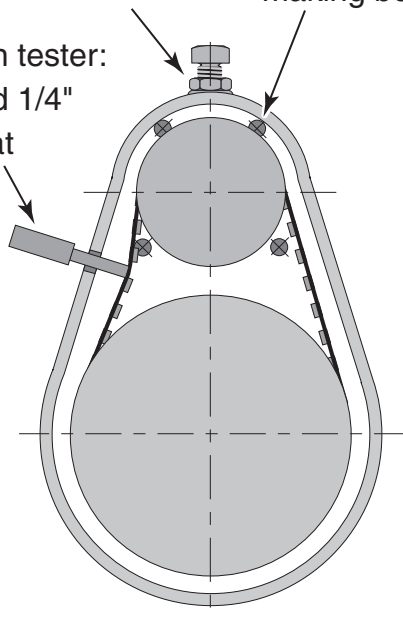

Figure 2: Setting Timing Belt Tension
The **Timing Belt** requires no lubrication. It has a fiberglass core, but severe operating conditions may cause it to stretch. Check the timing belt tension with a belt tension tester. The belt tension is correct when applying a midspan 10-lb. load to the belt causes a deflection of 1/4" (see Figure 2).
1. Insert tension tester through 1/2" hole in drive case (at belt midspan) until it just touches belt. Record the depth shown on the tester (Figure 2).
2. Depress tension tester until 10 lbs load has been reached and record new depth (Figure 2).